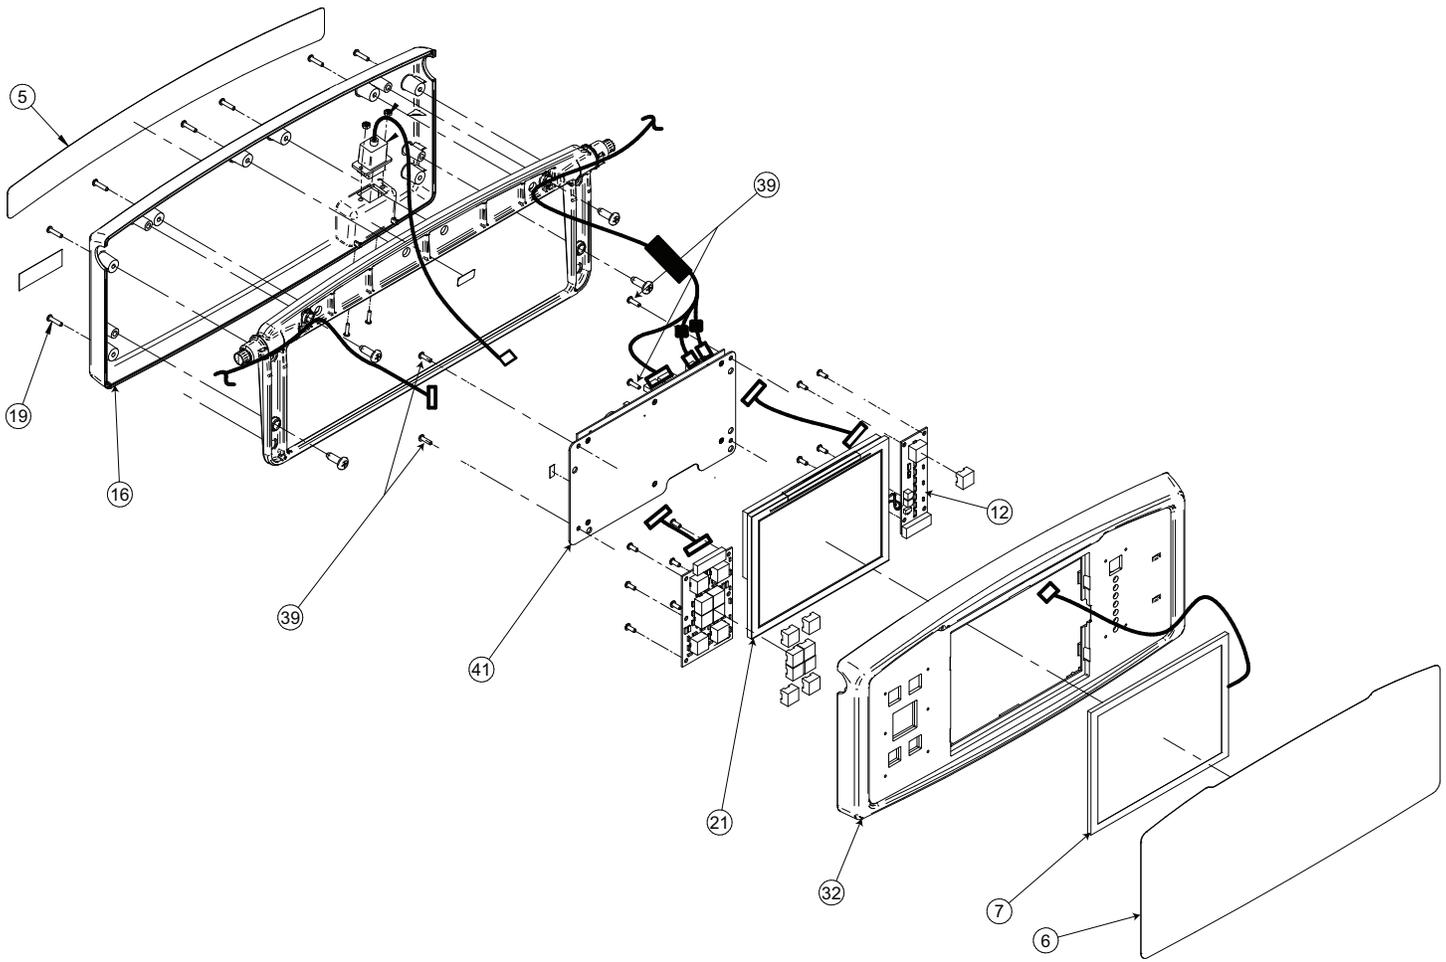

Figure 62 – Footboard assembly
2. Using a small slotted screwdriver, remove the fascia back foot control label (5) (Figure 62).
3. Using a #2 Phillips screwdriver, remove the six screws (19) that secure the front nurse panel (32) to the rear footboard control (16) (Figure 62). Save the screws.
5. Using a #2 Phillips short screwdriver, remove the two screws (19) from the bottom of the front nurse panel (32) (Figure 62). Save the screws.
10. Using #2 Phillips screwdriver, remove the four screws that secure the touch board (12) to the foot nurse panel (32) (Figure 62). Save the screws.